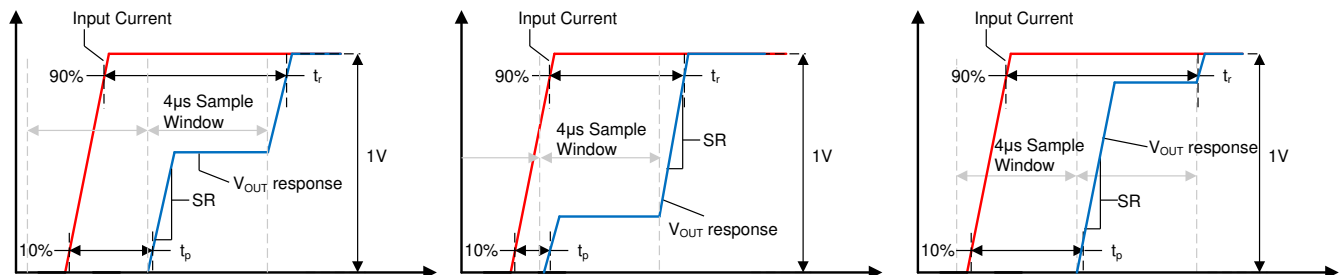

图 8-3. Small Current Input Step Transient Response
Slew rate (SR) is defined as the V_{OUT} rate of change for a single integration step's output transition, as shown in 图 8-3. Because the device often requires two sampling windows to reach a full 90% settling of its final value, this slew rate is not equal to the 10%-90% transition time for the full output swing.
Propagation delay is the time period between the input current waveform reaching 10% of its final value and V_{OUT} reaching 10% of its final value. This propagation delay is heavily dependent upon the alignment of the input current step and the sampling period of the TMCS1108, as shown for several different sampling window cases in 图 8-3.
Response time is the time period between the input current reaching 90% of its final value and the output reaching 90% of its final value, for an input current step sufficient to cause a 1-V transition on the output. 图 8-3 shows the response time of the TMCS1108 under three different time cases. Unless a step input occurs directly during the beginning of one sampling window the response time will include two sampling intervals.